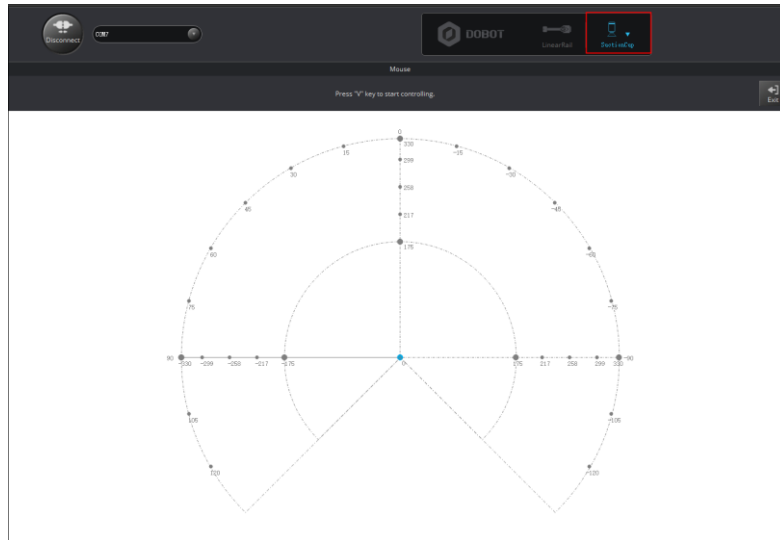

Figure 5.115 Click Setting
Step 3 Click **Setting**, as shown in Figure 5.115.